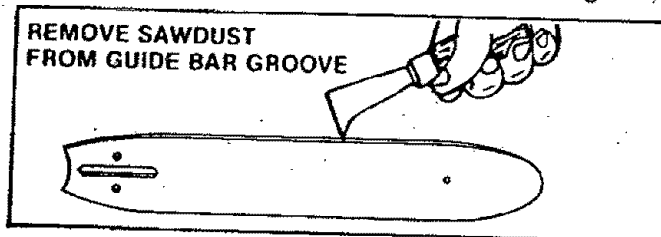

Figure 37
- c. Remove sawdust from the guide bar groove periodically with a putty knife or a wire. Figure 37.